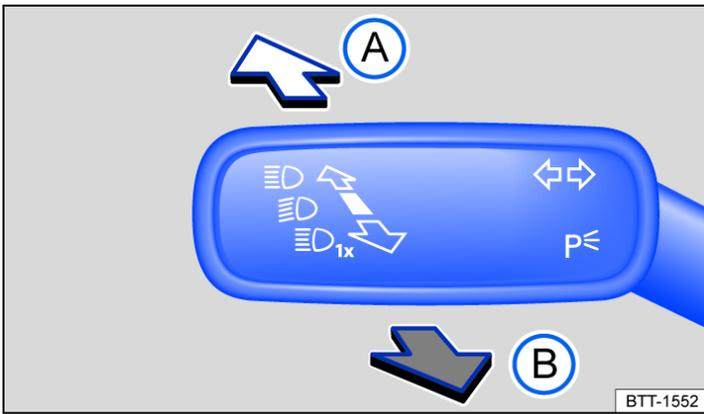

Fig. 1 On the left-hand side of the steering column: turn signal and main beam lever.
- Move the turn signal and main beam lever from the centre position to the following position → Fig. 1:
- (A)  Main beam switched on.
- (B) Operate the headlight flasher or switch off the main beam. The *headlight flasher* comes on for as long as the lever is pulled.